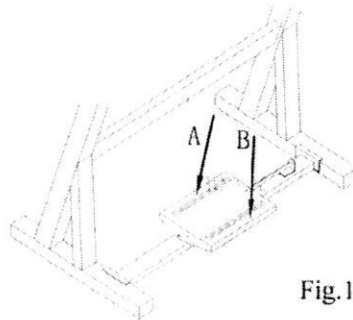

Fig.1
(1) After machine installation, connect the machine cable with the main electricity supply (controlling that the voltage and frequency of the main supply line are the same as those supply to motor.) and connect the filter-reducer unit to the compress air supply (pressure to be set for this machine – 6 bar).
(2) Start pedalswitch on the machine to watch if the rotation of motor is conformable to the red arrow on the belt cover . If the direction is opposite , switch in the other way round. Then operate the pedal in three different movement (Fig 1)